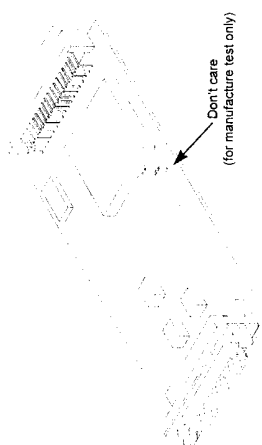

Fig.4-16 NS-620M7, Nx64Kbps, RS 530 Data interface Module
- M7: RS-530 interface (Nx64Kbps, N = 1 ~ 31), Fig.4-16